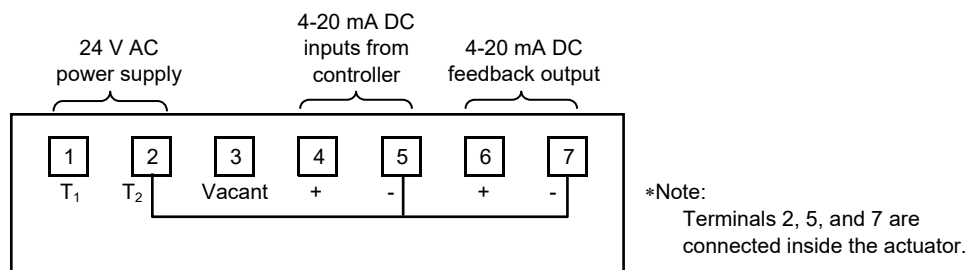

Figure 13. Terminals connection of Model VY519_J0_--
- 3) Correctly connect the wires to the terminals with M3.5 screw terminal lugs, referring to Figs 13 to 15.